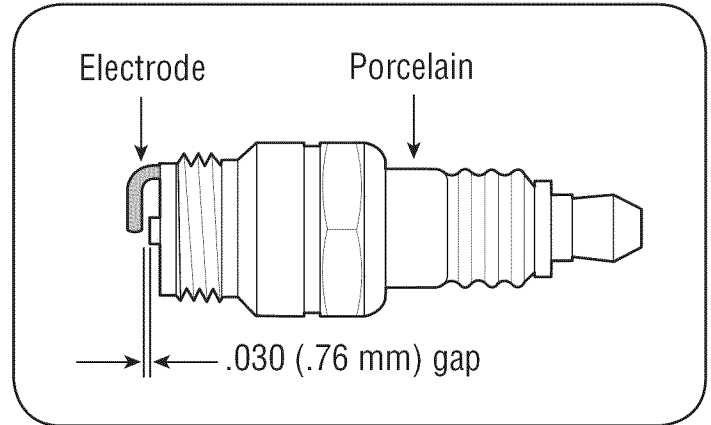

Figure 12
- Remove and inspect the spark plug. Check gap to make sure it is set at .030". See Figure 12.